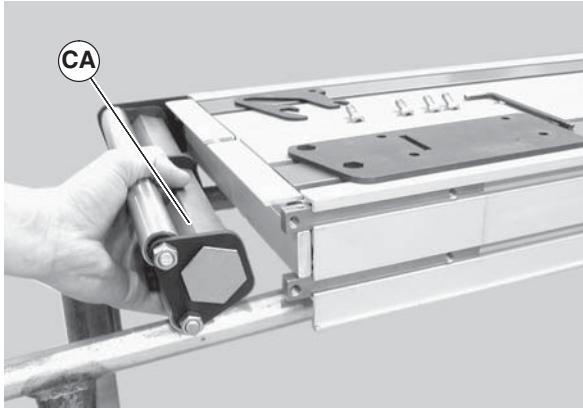

Figure 56
4. Slide the transfer tail pulley assembly (Figure 56, item CA) out of the headplate on the opposite side.